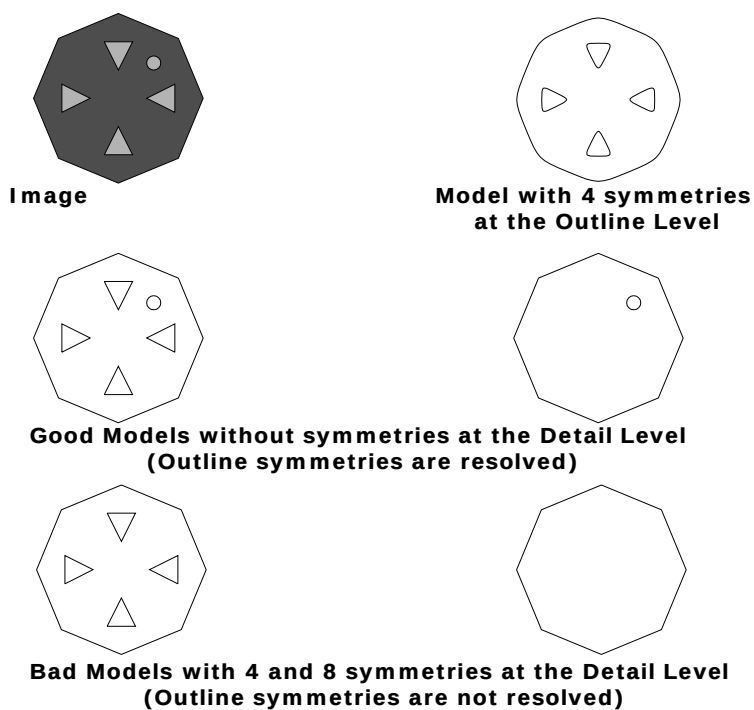
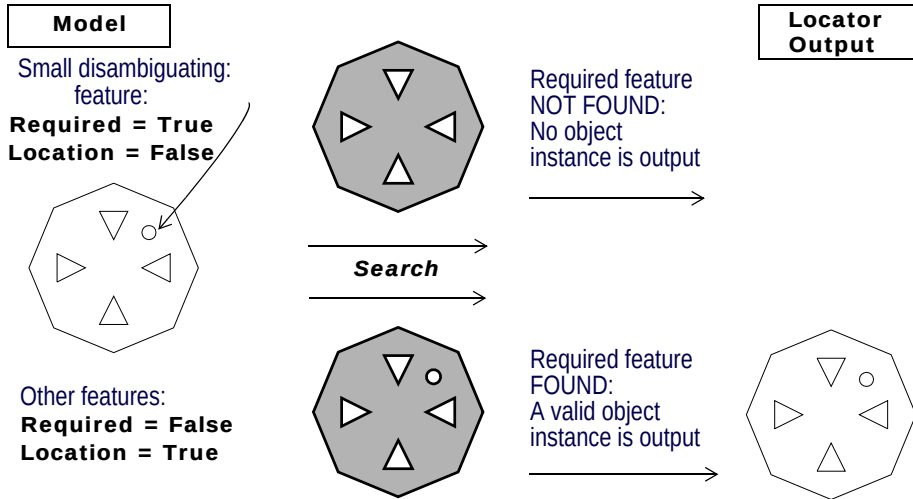

Figure 146 Good/Bad Model Examples built with Symmetrical Features
Figure 147 Effect of Assigning the Required Property to a Model Feature
- Although each feature may have rotational symmetries, the arrangement of these features should not have symmetries, as shown in the *Bad Models* example in Figure 146.
- For example, to properly recognize and locate the object illustrated in Figure 146, the feature properties could be set as shown in Figure 147. The small circle will be required to recognize the part. The other features will not be individually required to recognize the part, as long as the **Minimum Model Percentage** and **Minimum Required Features** criteria are met. If the small circle is slightly unstable in position, its **Location** property can be set to false. Therefore, to compute the pose of the part, the Locator will use all of the recognized features except the small circle.